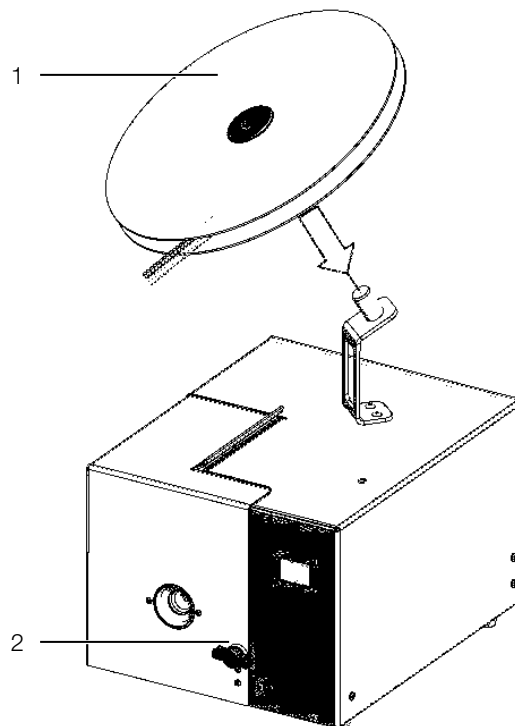

Fig. 4: Inserting the belt roll
- Place the belt roll (see fig. 4, item 1) so that clockwise unrolling is possible.
- Open the twist lock (see fig. 4, item 2) and swivel the flap to the side. The transport pin must be at the bottom!